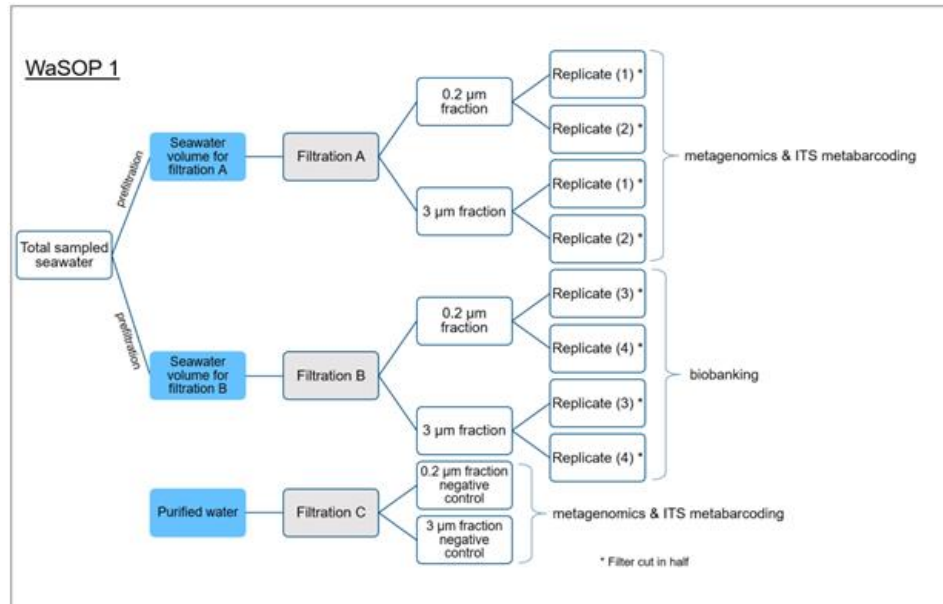

Figure 2: Summary of the sampling procedure. Look over the samples here, this is important.
- Open tripod holders and remove filter (one at a time!) using the forceps. Put the first filter in a 140mm petri dish and cut it in two equally sized pieces using the scissors. Place each half (or “replicate”) in separate labeled 5 ml cryotubes according to **Figure 2**. It is recommended to roll the filters like cigarette paper and folding while avoiding to mash it down the tube. Repeat for the second filter. Replicates 1 and 2 are placed in DNA/RNA shield fully covering the filter while replicate 3 and 4 are not. Place the cryotubes on dry ice as soon as possible.